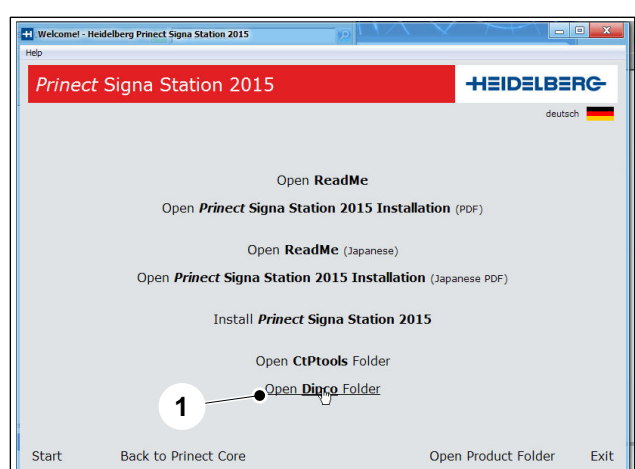

Fig. 4 Prinect Signa Station 2015 menu
- Click the menu entry **Open Dipco Folder** (Fig. 4/1).